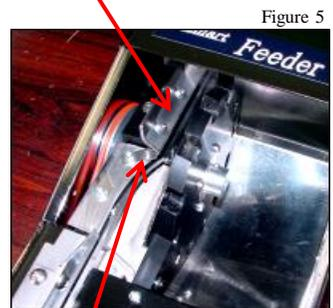

Figure 5
2. Alignment unit adjustment (see Fig. 5)
1) Adjustment of standby alignment part groove width (see Fig. 5) Adjust the groove width adjustment plate of the standby alignment part to allow screws to go through smoothly. The width of the groove is roughly equal-sized to that of the rail. For some screw types, smooth screw feeding is delivered when the groove is widened depending on the shape of a screw head.
2) Adjustment of alignment unit screw feeding width (see Fig. 5)
4) 11-1. Adjustment when the feed speed of the vibrating part fluctuates with the amount of screws in the hopper The most desirable frequency of the vibrating part can be found when the frequency adjustment slot (Slot 11) is turned with the screwdriver slightly counterclockwise with respect to the maximum frequency point (resonance point). Adjust Slot 11 until the feed speed becomes insusceptible to the varying amount of screws in the hopper. (See Fig. 5 and Fig. 11)